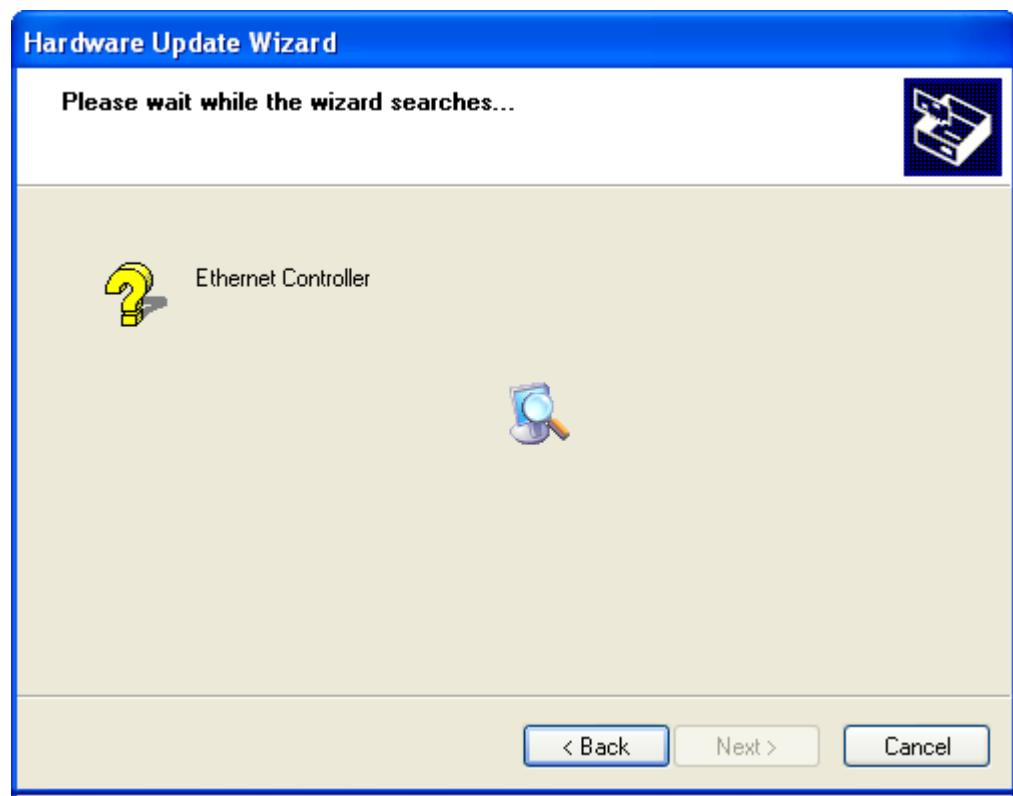

Figure 7-29: Wizard Search
Step 53: The Wizard then searches for the driver. See **Figure 7-29**.